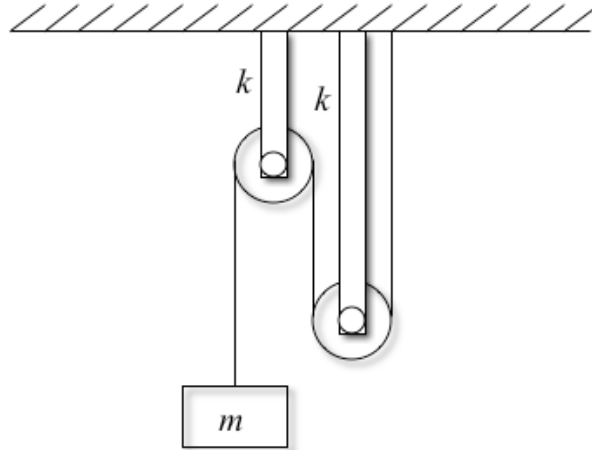

Figure P1.62
- 1.62** Use Lagrange's formulation to calculate the equation of motion and the natural frequency of the system of Figure P1.62. Model each of the brackets as a spring of stiffness k , and assume the inertia of the pulleys is negligible.